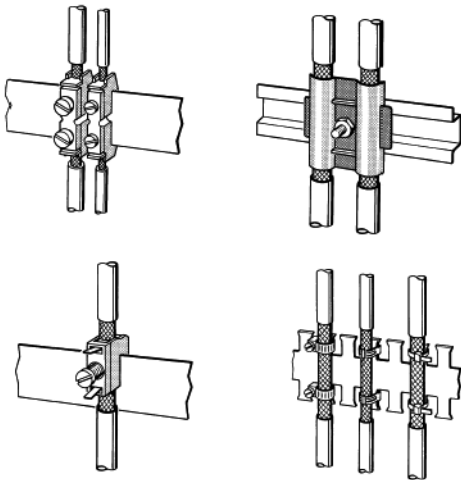

Fig. 6: Securing shielded lines using cable clamps and tube clips (schematic diagram)
- The clamps must fully enclose the shield and make good contact (see Fig. 6).